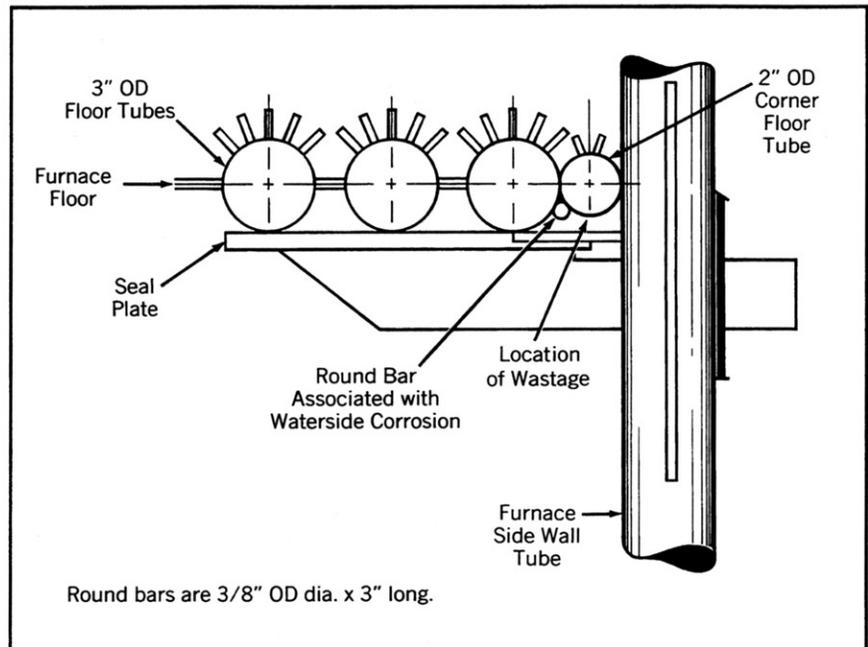
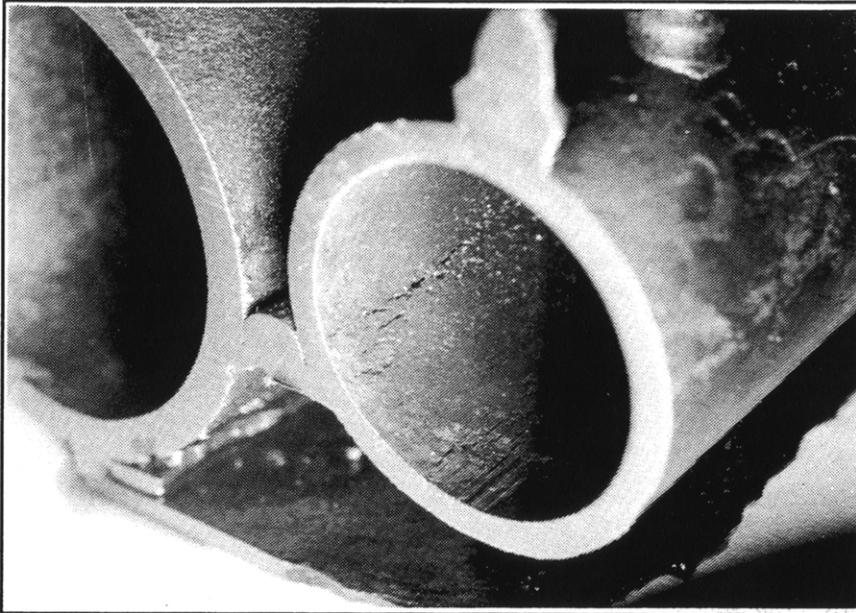

Figure 1. Example of 3/8" round bar welded on one side of the corner floor tube only and spaced on two foot centers.
Figure 4.
Recent inspections have revealed two independent forms of corrosion in the floor tubes of boilers that are equipped with the smelt spouts on the rear wall and that utilize a 2" OD floor tube construction adjacent to the sidewalls. This 1970's vintage construction, which can exist in either one of two arrangements, is shown in Figures 1 and 2. The corrosion problems may occur in either arrangement.
cracking on the water side (ID) has also been reported in both the 2" OD floor tube and adjacent 3" OD floor tube. The corrosion tends to concentrate on the water side in the area immediately beneath the 3" OD floor tube. The corrosion tends to concentrate on the water side in the area immediately beneath the 3" long, 3/8" diameter round bars that are used for alignment as shown in Figures 1 and 2. The corrosion is believed to be caused by a less than ideal aqueous environment, with damage occurring at preferential sites due to the simultaneous action of stress and chemical reactions (Figures 4 and 5). There has been one verified failure of a 2" OD floor tube as a result of stress assisted corrosion located at a round bar attachment. Further information about stress-assisted corrosion and the locations where damage may prevail in recovery boilers can be found in Plant Service Bulletin #29, "Stress-Assisted Corrosion: Boiler Waterside", that was issued by B&W in November 1987.
- During the next scheduled outage, inspect the underside of the 2" OD corner floor tube and adjacent 3" OD floor tube for external corrosion thinning. This may be accomplished by removing portions of the corner seal plates (as shown in Figure 1 and 2) from the underside of the furnace floor and measuring the tube thickness.
- During the next scheduled outage, inspect the water side (ID) of both the 2" OD corner floor tube and adjacent 3" OD floor tube for evidence of water side stress-assisted corrosion and cracking associated with the 3/8" diameter alignment bars.